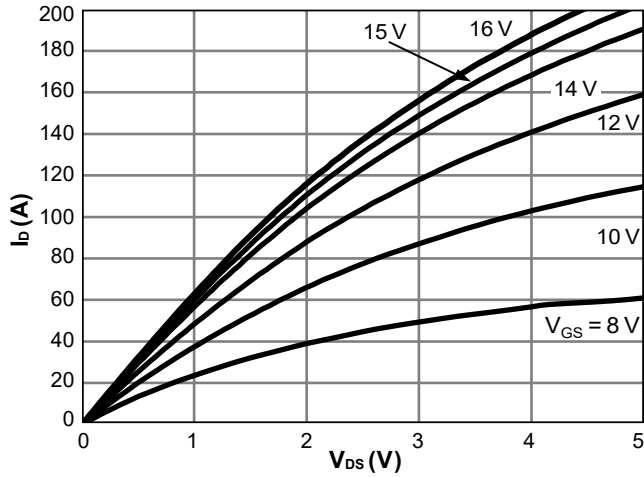

Figure 1. On-Region Characteristics $T_J = 25^\circ\text{C}$
- The static characteristics in Figures 1 to 8 are obtained using < 300 μs pulses, duty cycle 0.5% max.